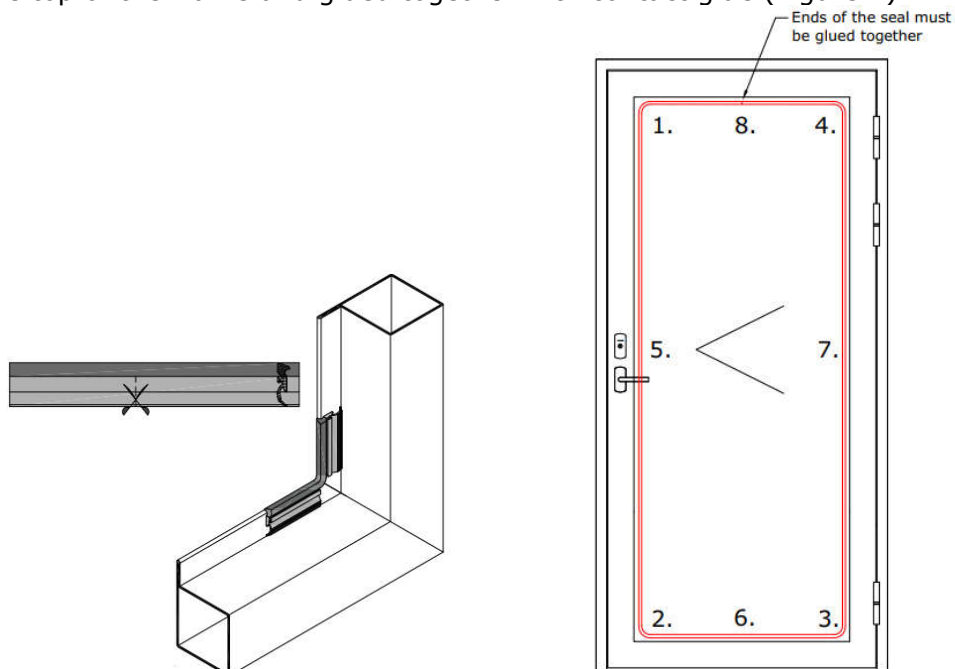

Figure 7 Outer glazing seal installation
3.1. Glue the outer seal onto the frame (if the seals have different thicknesses, then the thinner one must be placed on to the frame). Cut the seal for the corners. First install the seal to the frame corners and then the middle parts. The seal end must be finished at the top of the frame and glued together with contact glue (Figure 7).